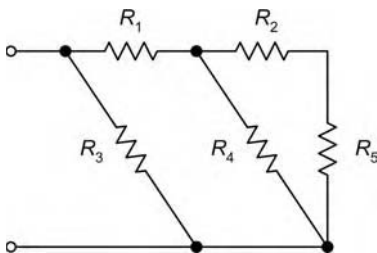

Figure 5.44
7. In Figure 5.44 which two resistors are connected in series?